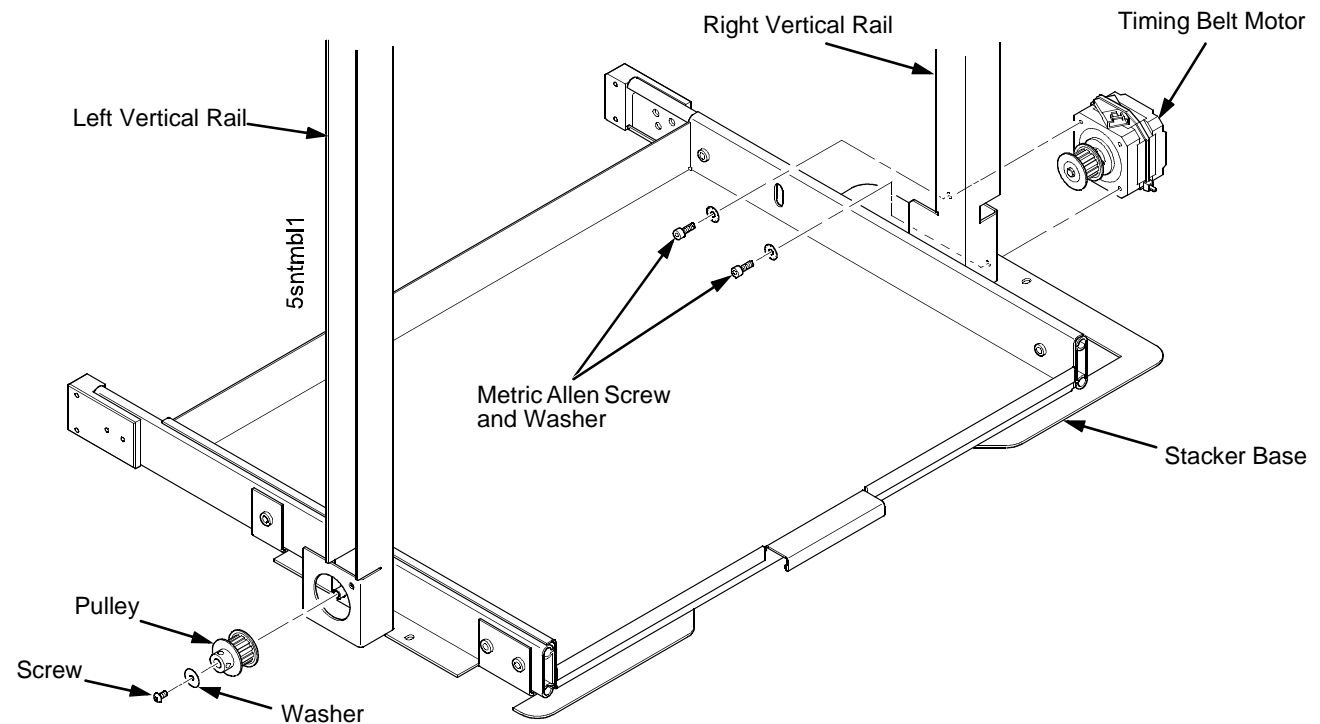

Figure 101. This figure shows how to remove the timing belt pulley and timing belt motor.
3. If you are removing the left timing belt, remove the screw and washer from the pulley at the bottom of the left vertical rail, and remove the pulley. (Figure 101.) Go to step 6.
4. If you are removing the right timing belt, remove the two metric Allen screws that secure the timing belt motor to the right vertical rail. (Figure 101.) Go to step 5.